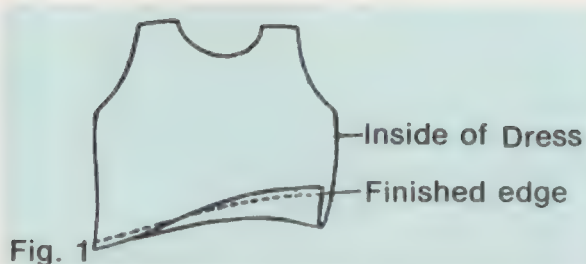

Fig. 1
1. Finish edge of hem anyway you desire. Turn up hem appropriate width. Fig. 1